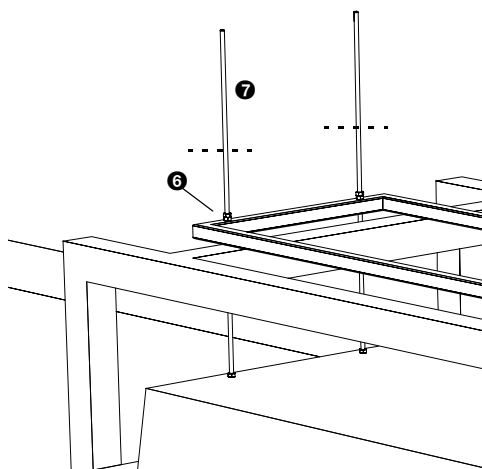

Figure 3-4 Finishing the suspension
2. Secure the nuts by applying a counter nut ⑥ on each thread. (Figure 3-4)
3. Saw off the superfluous parts ⑦ of the thread rods. (Figure 3-4) Leave approximately 10 cm.